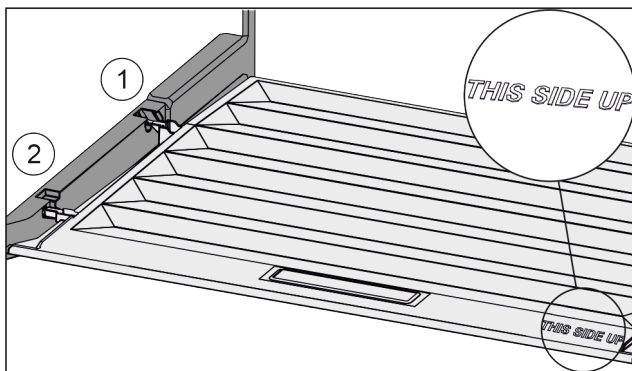

Fig. 92
- Insert the lip of the cover over the opening of the rear bracket Fig. 92 (1) and click into place Fig. 92 (2).